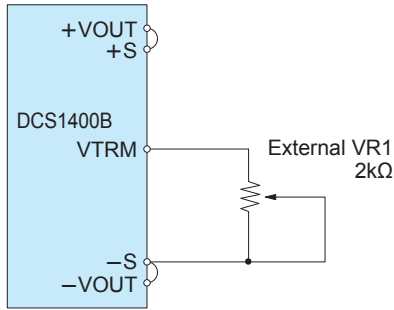

Fig.3.4 Connecting External Devices
(1) Output voltage adjustment by potentiometer
■By connecting the external potentiometer (VR1) as shown in Fig.3.4, output voltage becomes adjustable.